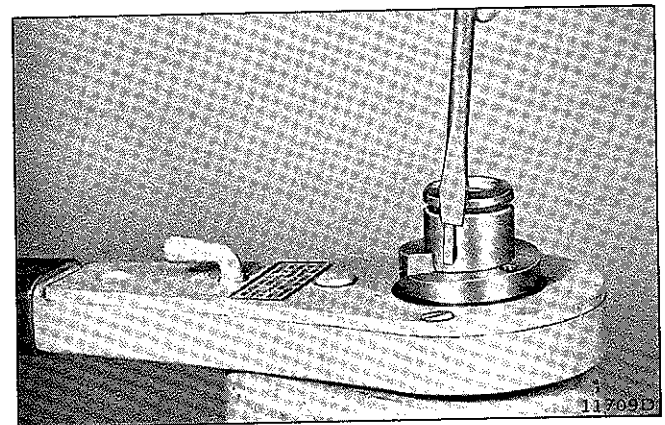

Figure 6-4.
c. After snap ring and hand wheel have been removed, remove brake flange key from brake flange by placing end of screwdriver on edge of key (Figure 6-4), and tapping lightly until key comes out of keyway.